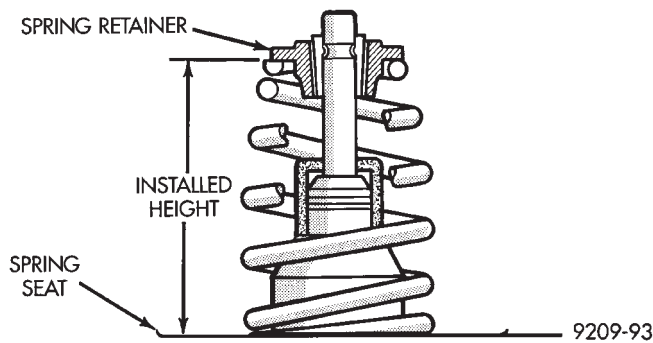

Fig. 23 Checking Valve Installed Height
(5) Check the valve spring installed height after refacing the valve and seat (Fig. 23).
(1) Coat valve stems with clean engine oil and insert them in cylinder head.
(2) If valves or seats are reground, check installed valve spring height (Fig. 23).
(3) Install new cup seals on all valve stems and over valve guides (Fig. 23). Install valve springs and valve retainers.
(4) Compress valve springs with Valve Spring Compressor Tool C-3422-B, with adapter 6412 install locks and release tool. **If valves and/or seats are reground, measure the installed height of springs, make sure measurements is taken from top of spring seat to the bottom surface of spring retainer. If height is greater than 1-19/32 inches, (40.6mm), install a 1/32 inch (.794mm) spacer in head counterbore to bring spring height back to normal 1-17/32 to 1-19/32 inch (39.1 to 40.6mm).**